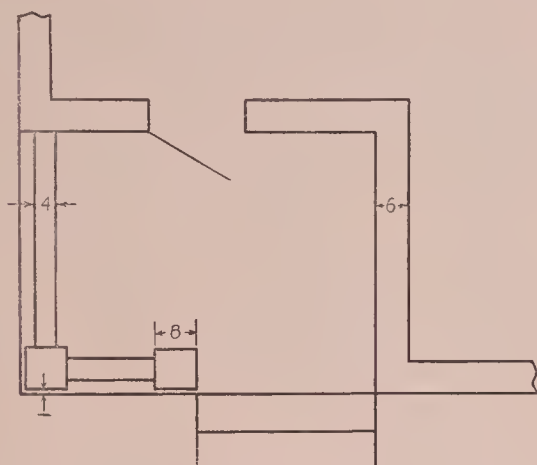

FIG. 9.
A. *Make freehand sketches of two plans* on half-inch squared paper; one having the 27' dimension parallel to the street and the other having it at right angles to the street. A porch should be represented as in Fig. 9 in the angle of the L. A chimney having an 8" flue should be lo-